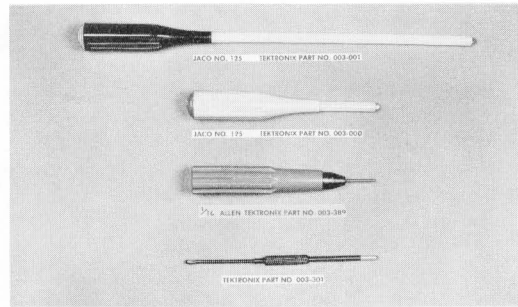

Fig. 5-1. Suggested alignment tools for recalibrating the Type R Plug-In Unit.
15. Miscellaneous alignment tools. (See Figure 5-1.)